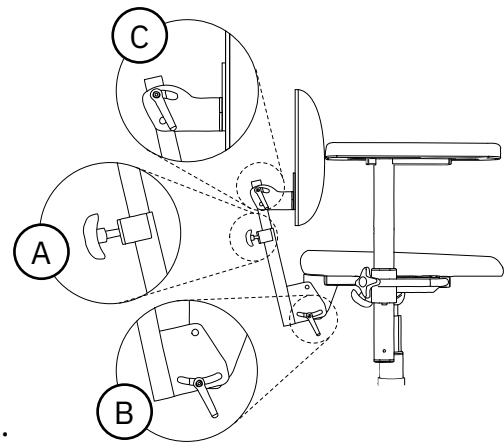

Figure 5.8. ErgoMedic backrest.
The Standard X-ray backrest mechanism's back support has adjustable height (A), adjustable backrest mechanism angle (B) and adjustable back support angle (C) (see Figure 5.8). The back recliner can be adjusted in the range of 15° forward to 30° backwards.